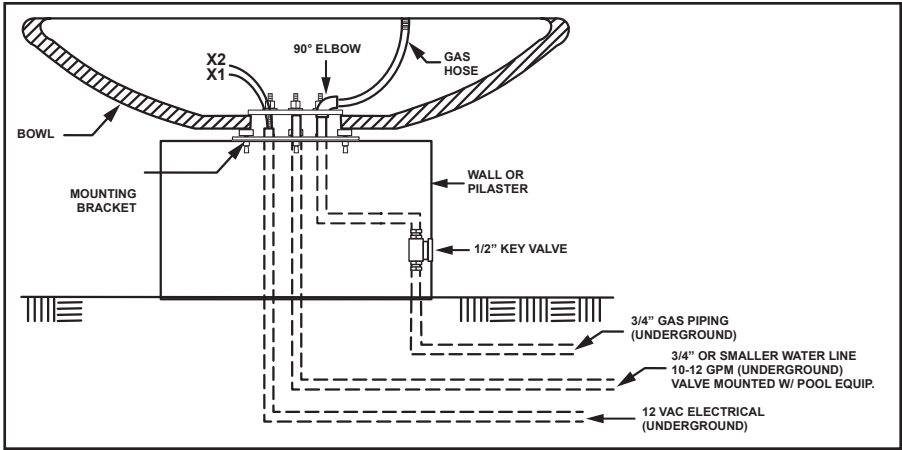

Figure 4. Mounting
1. Attach the mounting bracket to the surface/floor. See Figure 4.
Note: The gas, electrical, and water connection at each bowl must be located at the center of each bowl. The connections must be installed as shown in Figure 4.
7. Install the mounting bracket as shown in Figure 4.
8. Center the bowl on top of the mounting bracket. The bowl should rest on top of the three spacers located on the mounting bracket. Inside of bowl, install circular ring from Mounting Bracket and secure with the (3) nuts provided. Bowl should be secured to column.
9. Install 90° pipe elbow and gas hose at the gas connection as shown in Figure 4.
Important: The mounting bracket must be installed for proper cooling of the burner assembly. Warranty may be voided if the mounting bracket is not installed. Do not kink or make sharp radius on the metal gas hose. Do not come straight up with the gas hose. As shown in Figure 4, a 90° gas pipe elbow must be installed on the gas line for proper installation of the gas hose. The product warranty may be voided if it is not installed with an elbow as shown in Figure 4.
1. The height of the flame can be adjusted at each burner by opening or closing the ½" gas valve or keyed valve as shown in Figure 4.